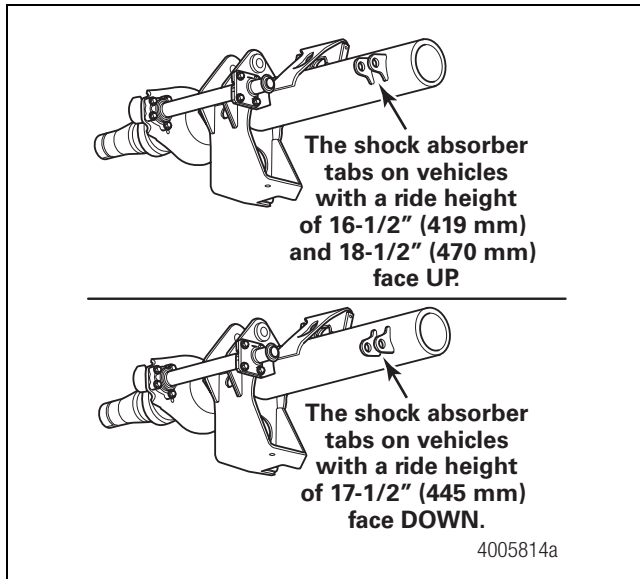

Figure 7
21. Tack weld the tabs in place. Run the outside welds. Remove the shock absorber. Run the inside welds. Figure 7.